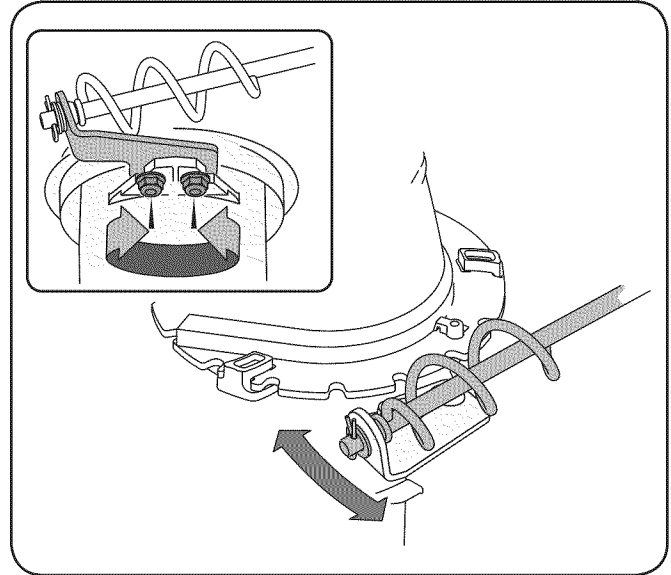

Figure 6-4
1. Loosen the two nuts which secure the chute bracket and reposition it slightly. See Fig. 6-4.